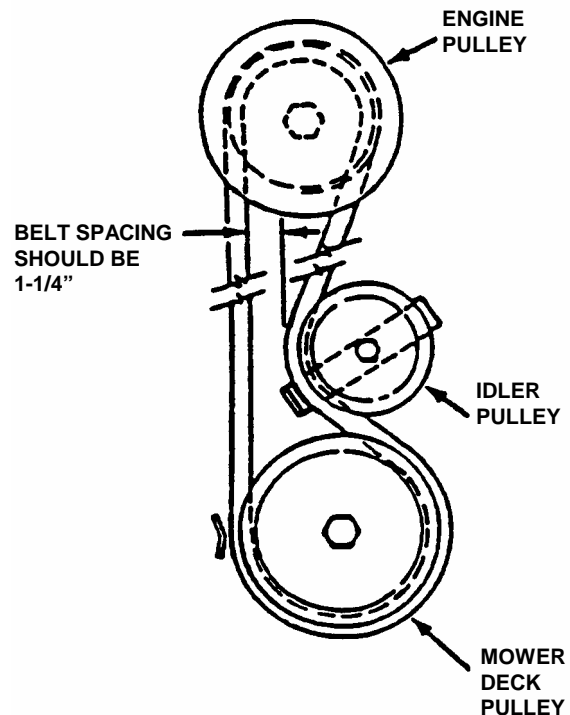

FIGURE 3.4
5. **25/28" Decks:** Measure the belt spacing at idler pulley. See Figure 3.4. The belt spacing should be 1-1/4" but no less than 1". If the measurement is less than 1", the belt tension should be adjusted. Refer to Section "BLADE DRIVE BELT ADJUSTMENT".